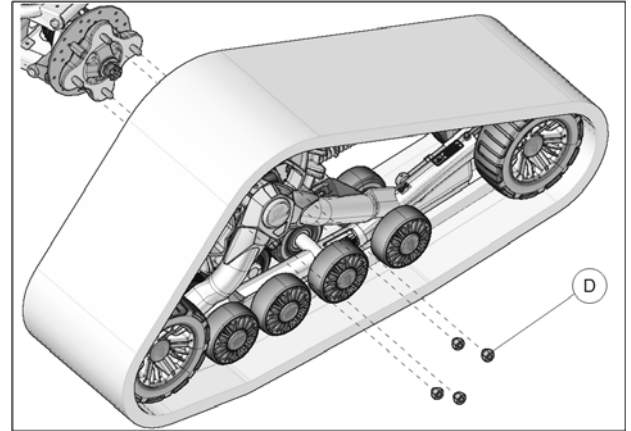

Fig. 8
8. Secure undercarriage to rear hub using the provided lug nuts (D). See Fig. 8
6. Using the lug nuts (D) provided, secure undercarriages to front wheel hubs. The procedure and precautions are the same as for rear units. Refer to Fig. 8